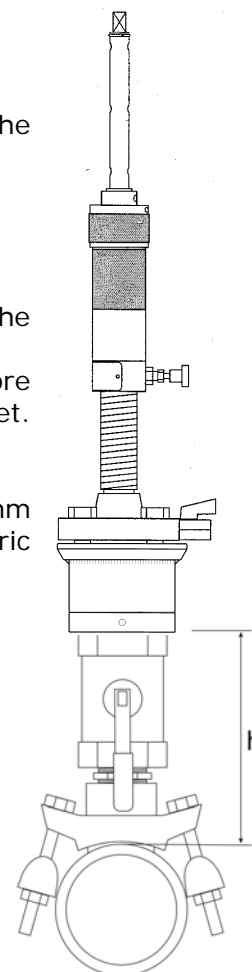

Figure 13
- With the installed valve actuation lever in the open position (for under pressure drilling operations), now assemble the **AcuDrill Plus** drilling machine, screwing it onto the valve or over the saddle installed on the pipe, depending on the situation. The adapter must have the gasket installed. See *Figure 13*.